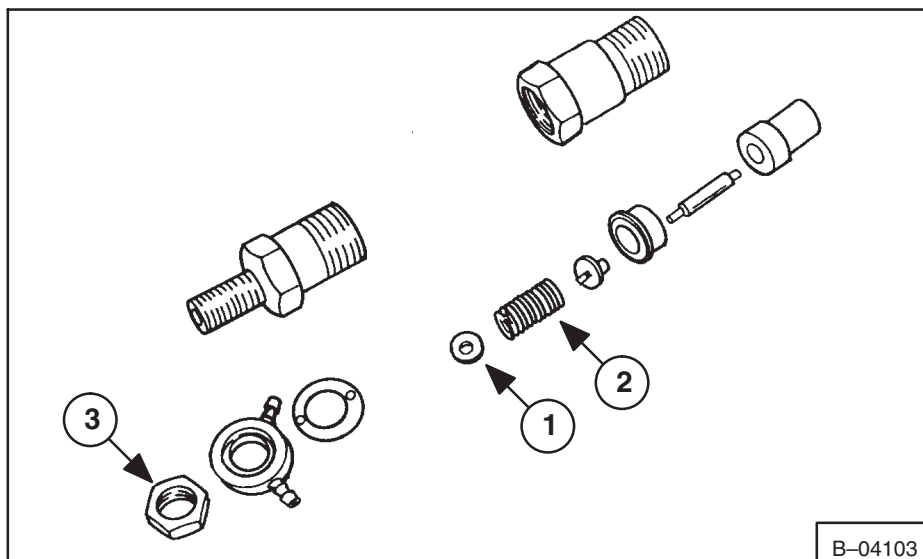

Fig. 7C-24 Injector Nozzle
3. If the pressure is not correct, disassemble the injector nozzle and add or remove spacers. Each 0.05 mm shim will change pressure setting about 70 PSI (485 kPa). Assemble the injector nozzle and check the pressure. When you assemble the injector nozzle, tighten the retainer nut (Fig. 7C-24, Item 3) 43–58 ft.-lbs (59–79 Nm) torque. Any higher torque can cause slow action of the valve.
Check that the spray pattern is correct (Fig. 7C-25). The spray pattern is not correct if: